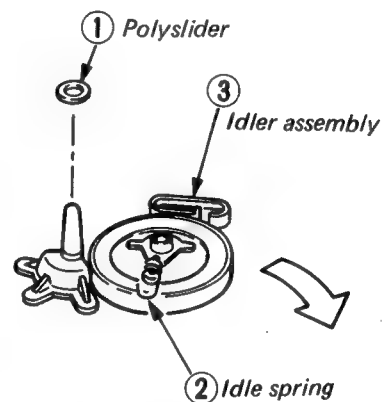
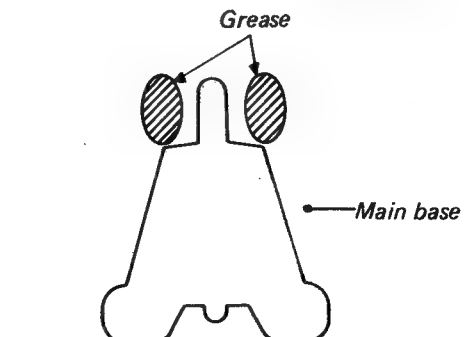

Fig. 1-3-38 Idler assembly replacement (1)
Fig. 1-3-40 Idler assembly replacement (3)
3) Remove the T-reel table assembly as previously stated. (Refer to 1-3-11 (2))
4) Remove the polyslider ①. (Fig. 1-3-38)
5) Remove the idle spring ② from the post.
6) Move the idler assembly ③ in the direction as shown by the arrow. (Fig. 1-3-38)
7) Confirm that the idler assembly ③ is not caught with the main base. Lift the idler assembly upward.
9) When mounting the idler assembly, be sure to grease. (refer to the Fig. 1-3-40.)